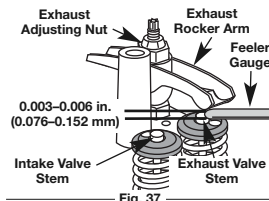

Fig. 37
8. Slide the feeler gauge between the rocker arm and the valve return spring. Measure the clearance between the valve stem and rocker arm (Fig. 37). Measure both the intake and exhaust valves.
- a. Turn the adjusting nut using a 5/16 inch (8 mm) wrench or nut driver (Fig. 37).